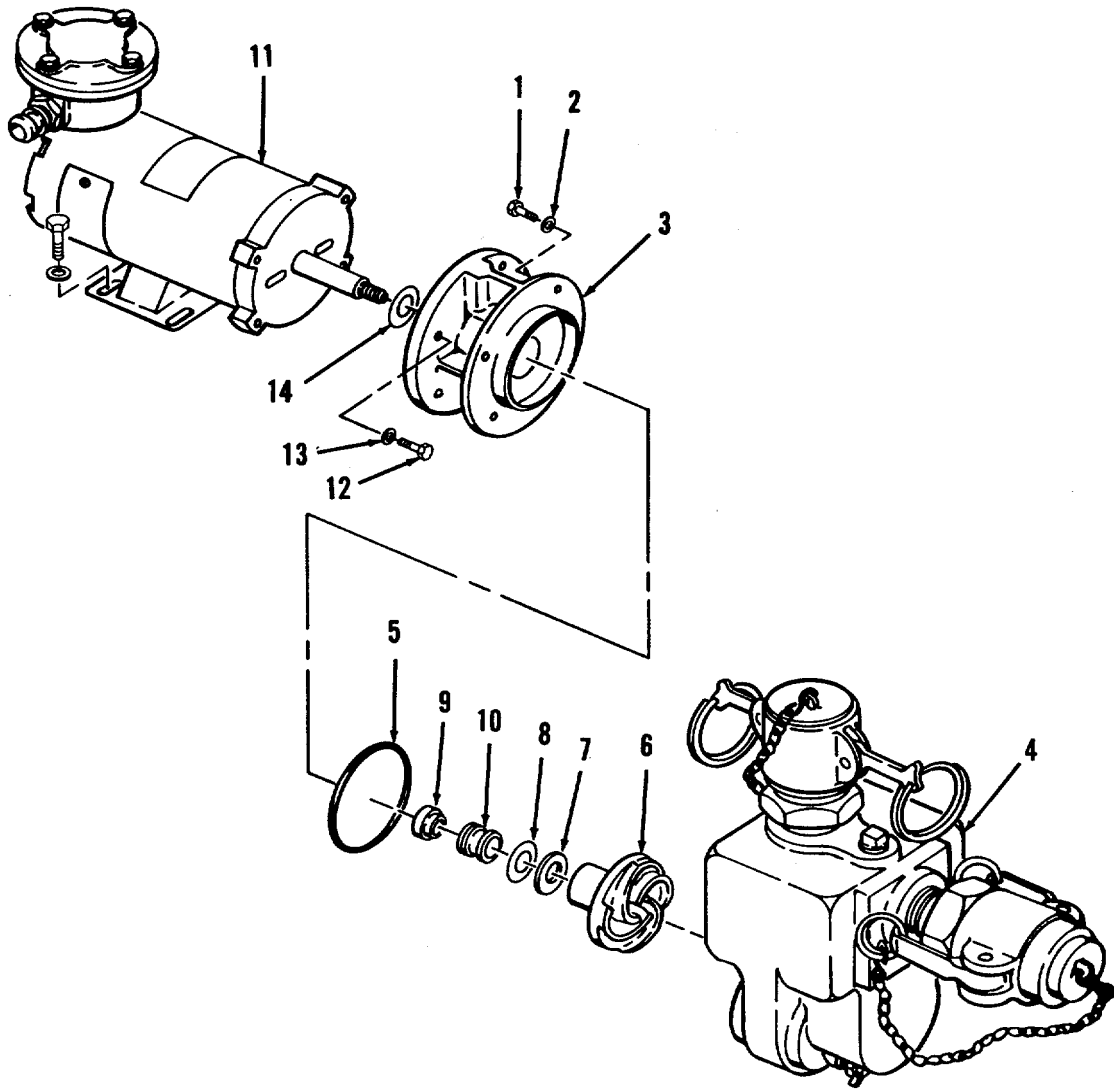

Figure 5-1. Pump Assembly Replacement.
a. Removal. (Refer to Figure 5-1).
- (1) Remove four bolts (1) and four lock washers (2) from pump side housing (3).
- (2) Remove pump housing (4) from pump side housing (3).
- (3) Remove preformed packing (5) from pump side housing (3).
- (1) Install drain cock (9) onto pump (4).
- (2) Install pipe nipple (8), coupling half (7), gasket (6), and dust plug (5) onto pump (4).
- (3) Install coupling half (3), gasket (2), and dust cap (1) onto pump (4).
g. Replacement. (Refer to Figure 5-1).
- (1) Install slinger (14) onto shaft of motor (11).